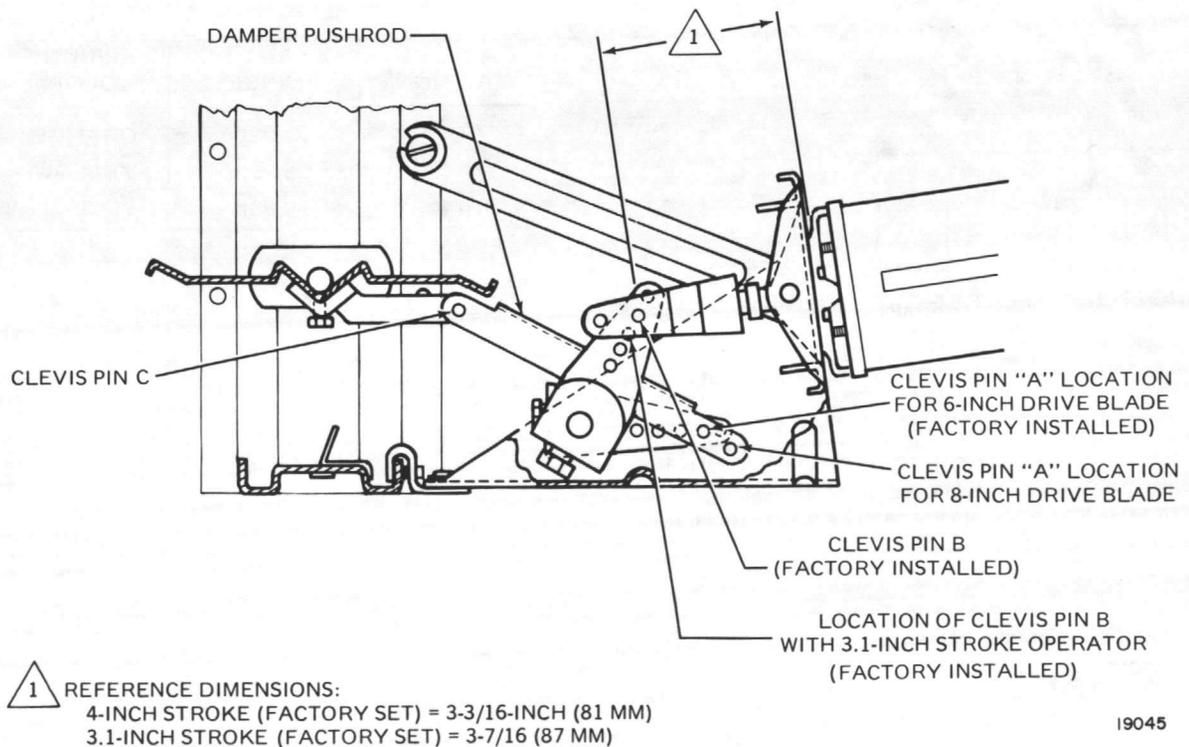

Fig. 9. Internal Mounting Normally Open Installation.
5. For installation with 6-inch drive blades, go to step 6. For installation with 8-inch drive blades, remove clevis pin A (Fig. 9) and reinstall in pushrod hole marked 8. (Hole in crankarm marked 90.)